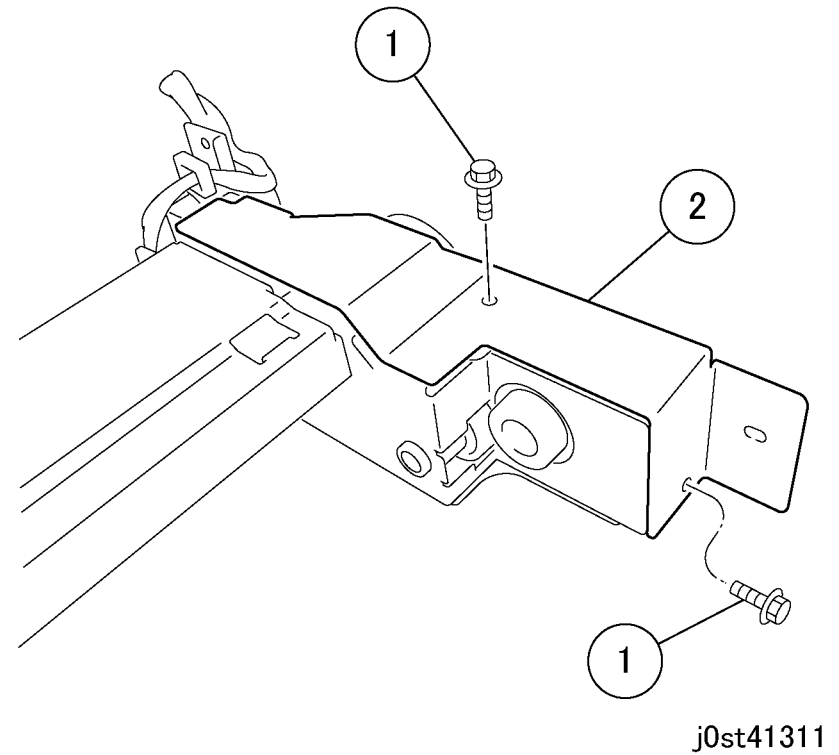

Figure 4 Removing the Tray 2 Feeder
6. Remove the Tray 2 Feeder. (Figure 4)